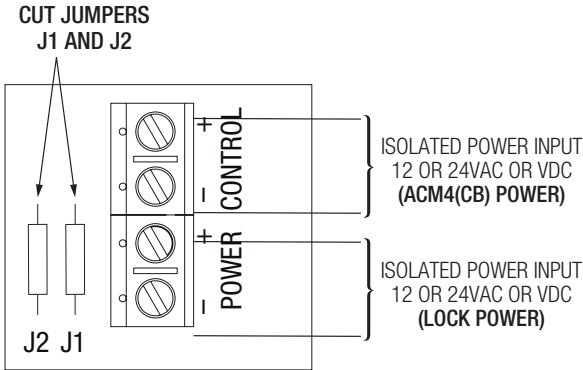

Fig. 3
5. **Fire Alarm Interface options** (Figs. 3 through 7, pg. 6 - 7):
Connect the positive (+) and negative (-) from the FACP signaling circuit output to the terminals marked [+ INP -]. Connect the FACP EOL to the terminals marked [+ RET -] (polarity is referenced in an alarm condition). Jumper J3 must be cut (Fig. 3, pg. 6).
FACP INTERFACE T, + INPUT -	Fire Alarm Interface trigger input from FACP. Trigger inputs can be normally open, normally closed from an FACP output circuit (Fig. 3 through 7, pg. 6-7).